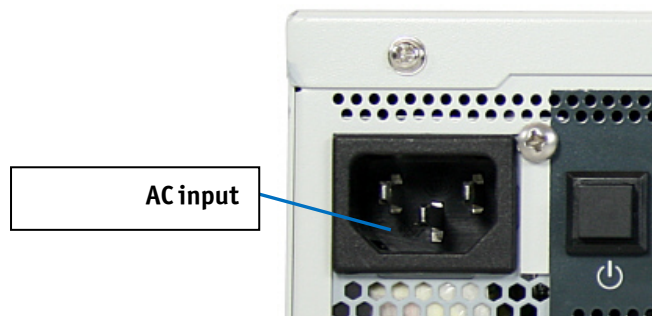

Fig. 22: AC input connector on the front side of the chassis
<p>The KBox B-101 can be connected to an AC supply circuit using an AC power cord (see Fig. 22).</p>
1. Insert the corresponding connector of the supplied AC power cord into the AC input connector (Fig. 9, pos. 1, Fig. 22). The AC input connector is located on the front side of the KBox B-101.